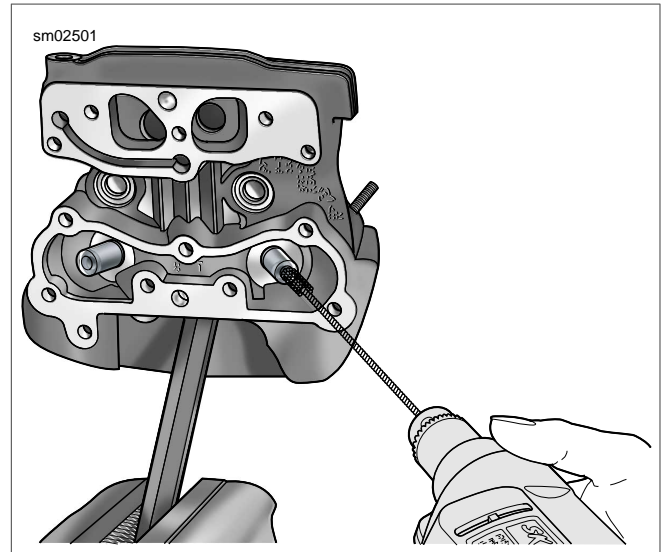

Figure 3-88. Honing Valve Guide Bore
8. See Figure 3-88. Obtain the VALVE GUIDE HONE (Part No. B-45525) and REAMER LUBRICANT (Part No. HD-39964).